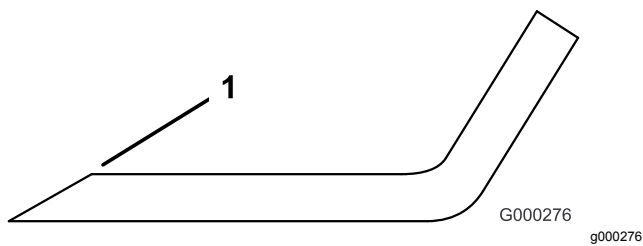

Figure 140
4. Sharpen the cutting edges if they are dull or nicked (Figure 140).